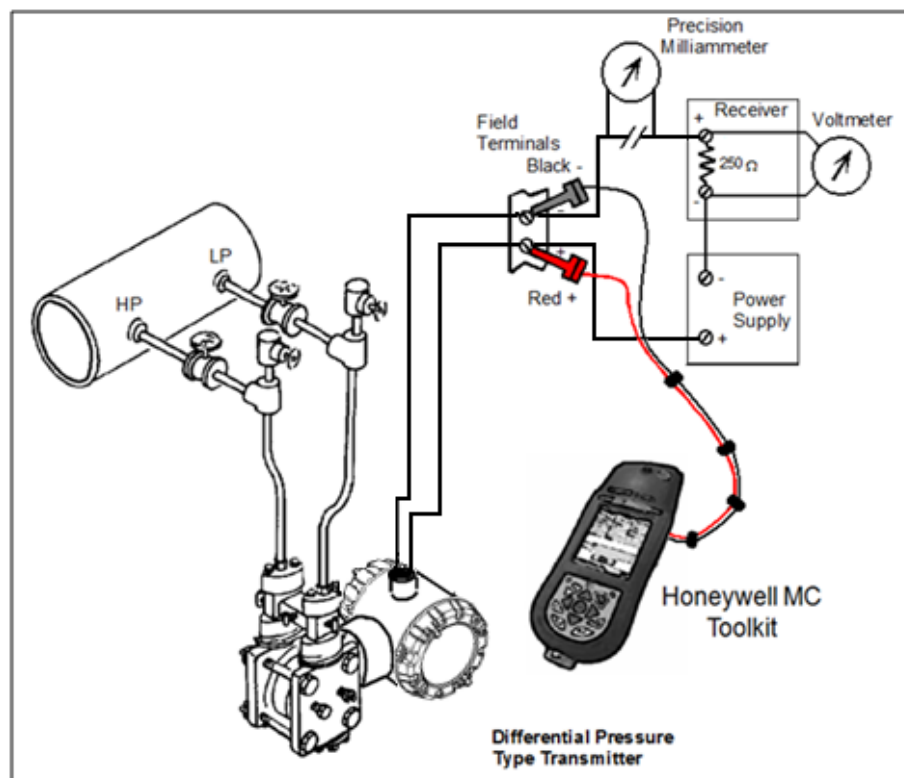

Figure 56 – ST 700 Basic Transmitter - Current Loop Test Connections
10. Refer to Figure 56 for test connections. Verify the integrity of electrical components in the output current loop.
1. Connect a current meter or voltmeter as shown in Figure 56 to monitor the PV output of the transmitter.